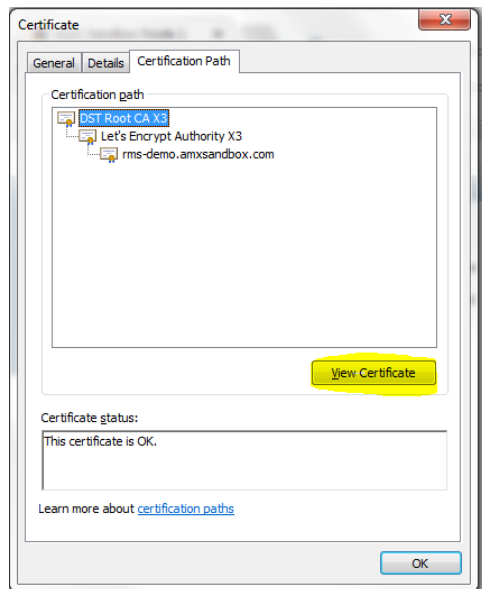

FIG. 463 Certificate Path - View Certificate
4. Select the Root CA at the top of the *Certification Path* tab and click **View Certificate** (FIG. 463):